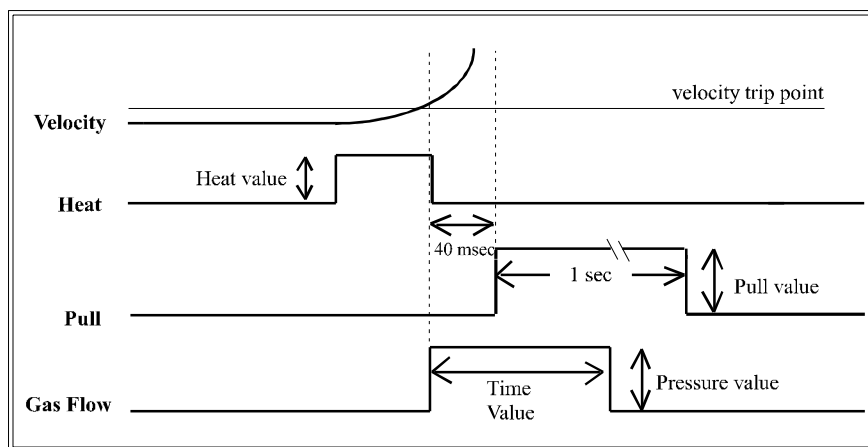

Figure 10. Pull Cycle.
4. If TIME is > 0 the hard pull (if any) is executed after a 40ms delay and the air is activated for the specified TIME (**Figure 10**).